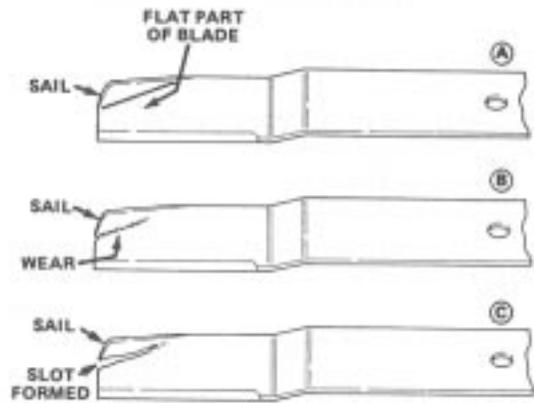

Figure 61
2. Carefully examine cutting ends of the blade, especially where the flat and sail (curved part) meet (Fig. 61-A). Since sand and abrasive material can wear the metal connecting the flat and sail portions, check the blade before using the machine. If any wear is noticed (Fig. 61-B), replace the blade; refer to Removing the Cutting Unit Blade, page 44.